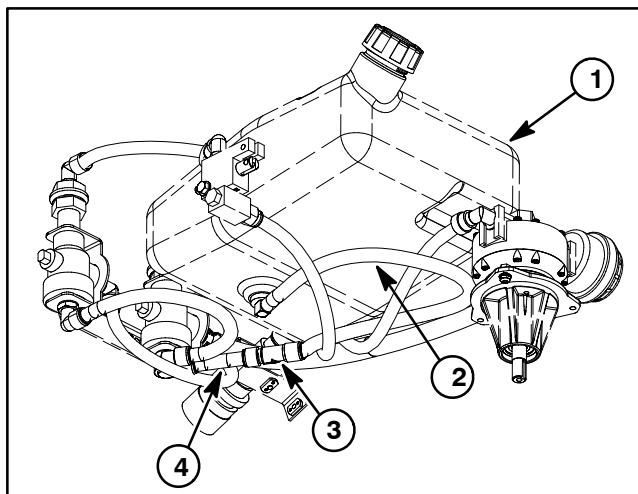
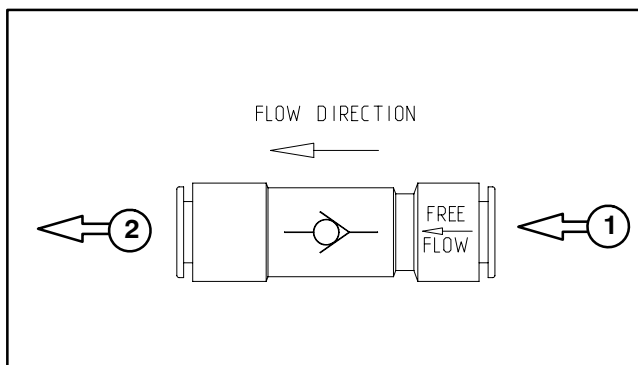

Figure 16
Figure 17
2. Remove check valve from tubes (see Quick Disconnect Fitting in the General Information section) (Fig. 16).
4. Install check valve to tubes (see Quick Disconnect Fitting in the General Information section) (Fig. 16). Make sure that check valve is installed to allow free flow from flush (water) tank (Fig. 17).